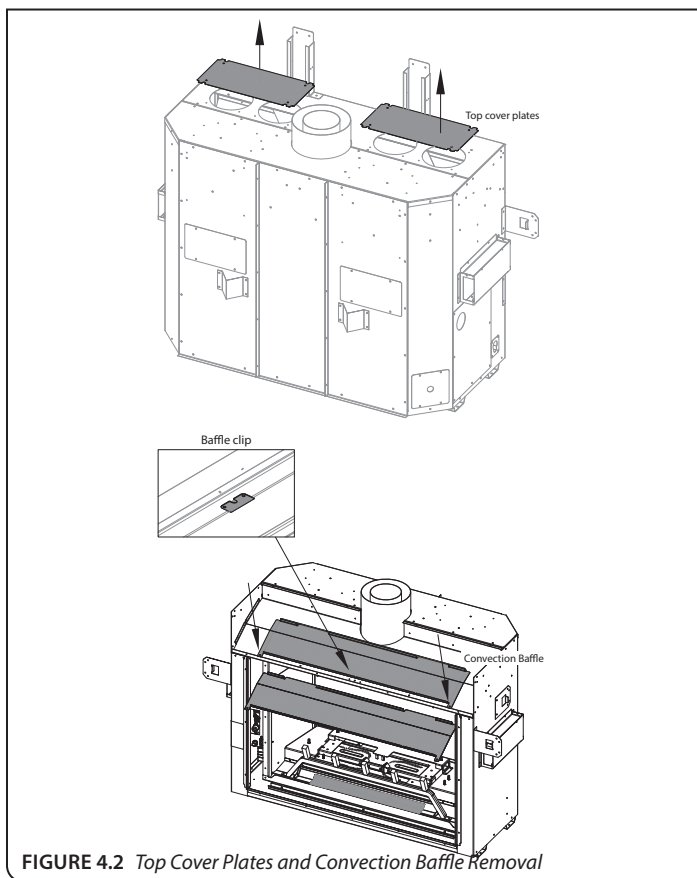

FIGURE 4.2 Top Cover Plates and Convection Baffle Removal
1. Remove (2) cover plates on top of the appliance (4 screws each).
2. Remove the convection baffle from the appliance. The baffle is secured by a baffle clip with (2) screws in the front center, and (2) screws right behind the upper edge of the fireplace opening. See FIGURE 4.2. Recycle this panel as it is no longer needed.